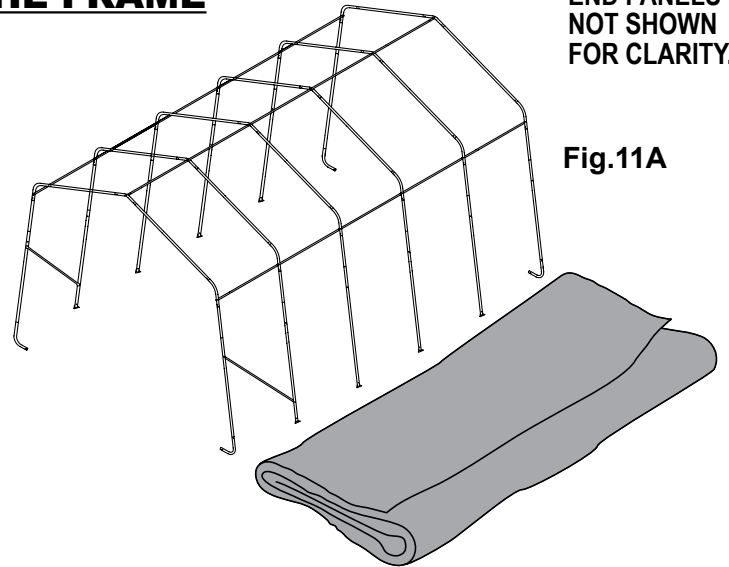

Fig.11A
**A.** Lay the cover on the ground next to the frame with the inside of the cover (the side with the pipe pockets) facing down and the webbing on the front and rear of the corner of the building. Position the cover so that it is centered to the frame, front to back. Fig. 11A